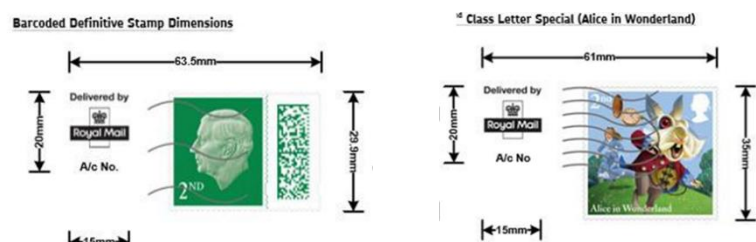

Figure 31: Access License Number positioning and dimension requirements for Digital Stamp Indicators
- b. You must ensure that the correct Access Licence Number (C9 number) relevant to the Access Contract you use for the Posting is added to the artwork in the position detailed in Figure 31 and Figure 32 below.
- e. Artwork must meet the exact dimensions of the Digital Stamp artwork (see Figure 31 below).